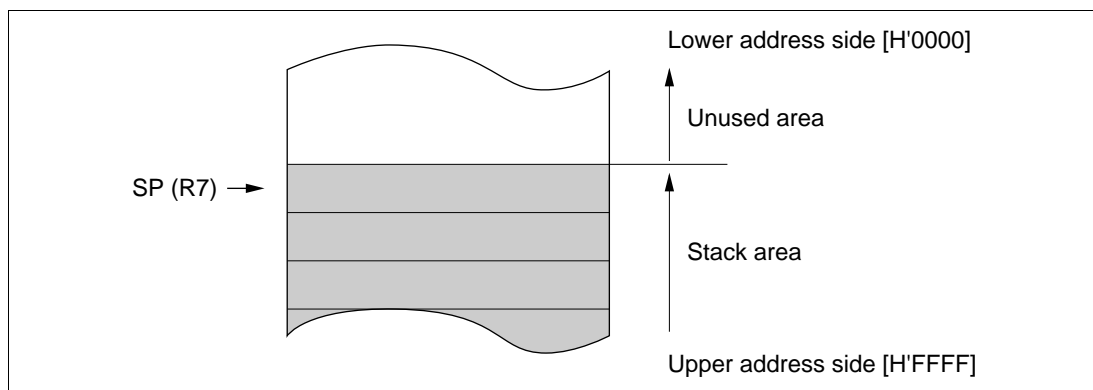

Figure 2-2 Stack Pointer
R7 also functions as the stack pointer (SP), used implicitly by hardware in exception processing and subroutine calls. When it functions as the stack pointer, as indicated in figure 2-2, SP (R7) points to the top of the stack.